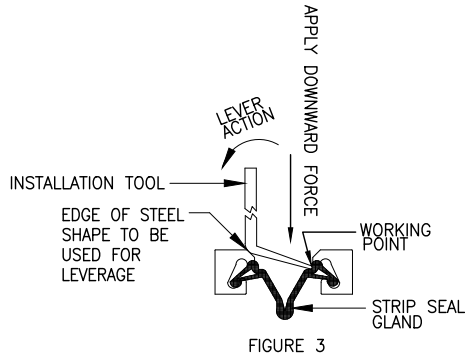

FIGURE 3
4. USING THE INSTALLATION TOOLS PROVIDED, WORK THE UPPER EARLUG OF THE SEAL TO ROTATE TOWARD THE BACK OF THE EXTRUSION CAVITY AND LOCK IN UNDER THE UPPER LIP. (SEE FIG. 3) USE ONE OF THE TOOLS TO HOLD THE UPPER EARLUG AND A SECOND TOOL TO APPLY THE LEVER ACTION, UNTIL THE UPPER EARLUG HAS BEEN PROPERLY SEATED AND LOCKED INTO PLACE. REVERSE THE TOOL AND INSTALL OPPOSITE SIDE IN THE SAME MANNER. (FIGURE 4)